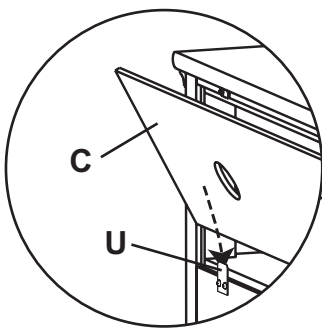
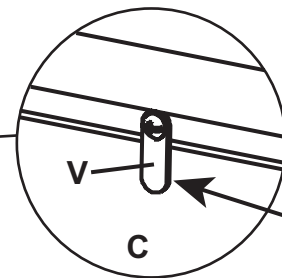

Fig. 2a
Fig. 2b
2. To insert your media components and access wires more easily, you may want to detach the Removable Back (C). To do so, unlock the Turn Buttons (V) as shown in Figures 2b and 2c. Slide the Back away and place it off to the side. See Figure 2a. To put it back into place, slide the Back and position the Turn Buttons so that they are locked. See Figures 2a and 2c.